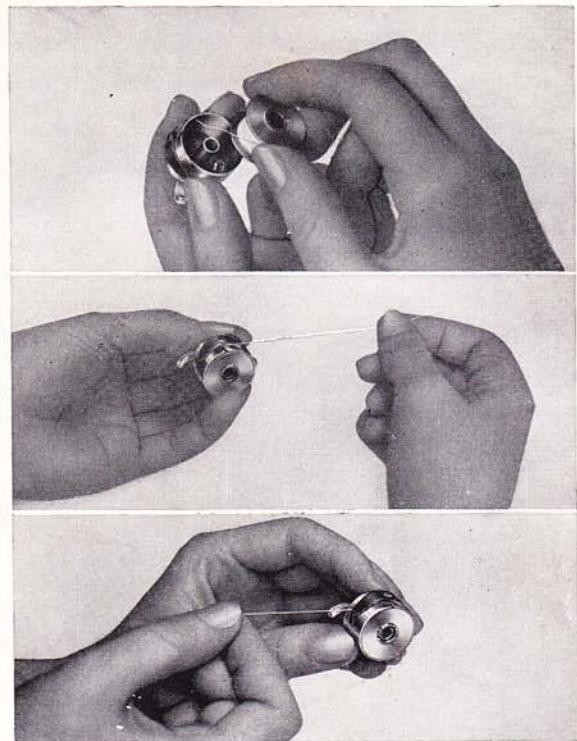

Fig. 9
- d) Insert filled bobbin into bobbin case and draw bobbin thread under the tension spring as shown in Fig. 9. Leave about four inches of loose thread hanging down from bobbin case.